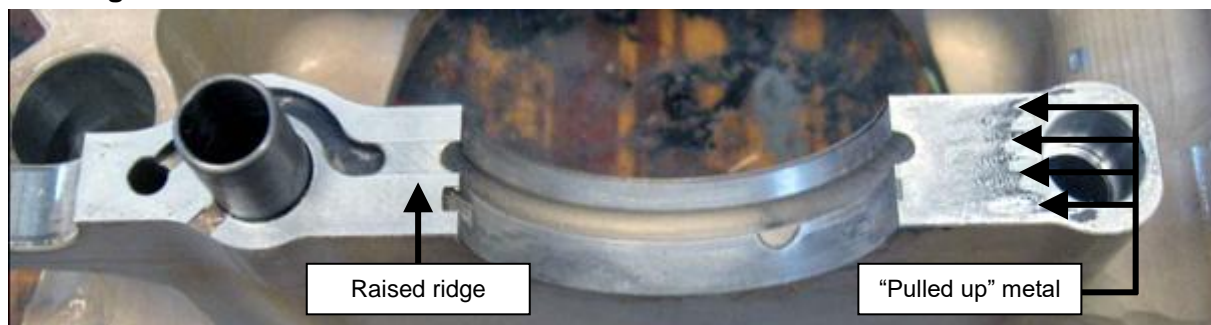

Figure 212 – Crankcase Fretting
- Cases which have suffered fretting can be identified as shown in Figure 212. There will be characteristic markings on the crankcase joining face near the main bearing journals which can be felt by scratching with a fingernail – the raised portions will be clearly evident.